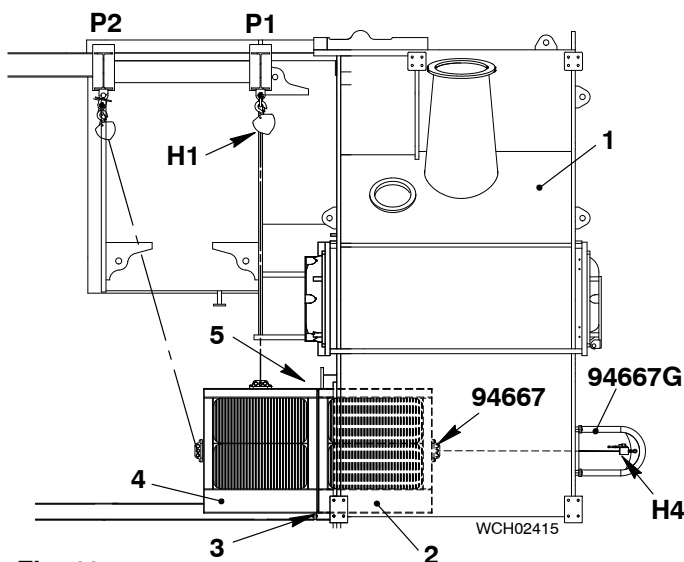

Fig. 11
- 2) Align the the front and rear water separators (2 and 4, Fig. 11).
- 3) Attach the water separators (2, 4) together with the two top screws (5) and the two bottom screws (3).
- 4) Remove the manual ratchet (H1) and the tool (94667) from the top of the water separator (4).
- 5) Operate the manual ratchet (H4) to pull the water separators (2, 3) fully into the receiver (1).